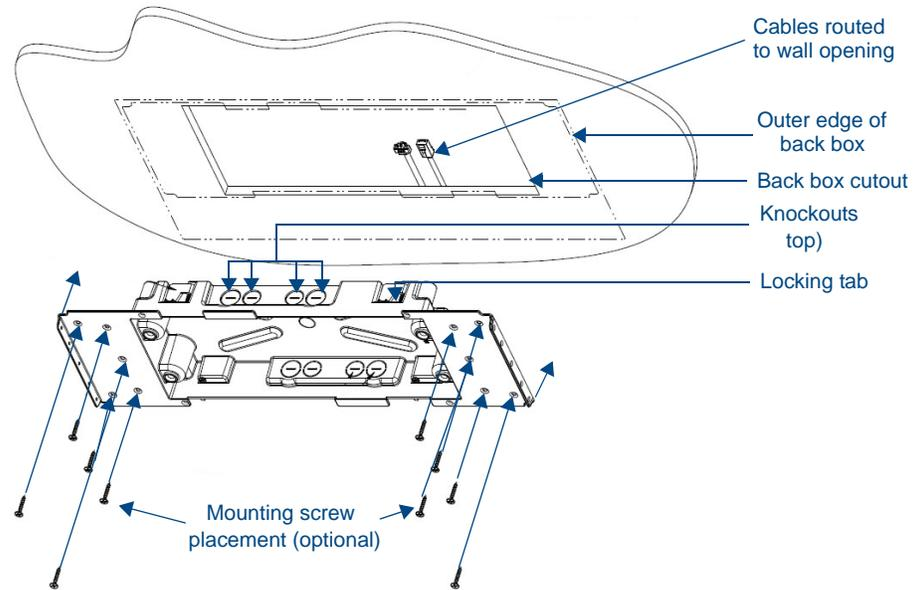
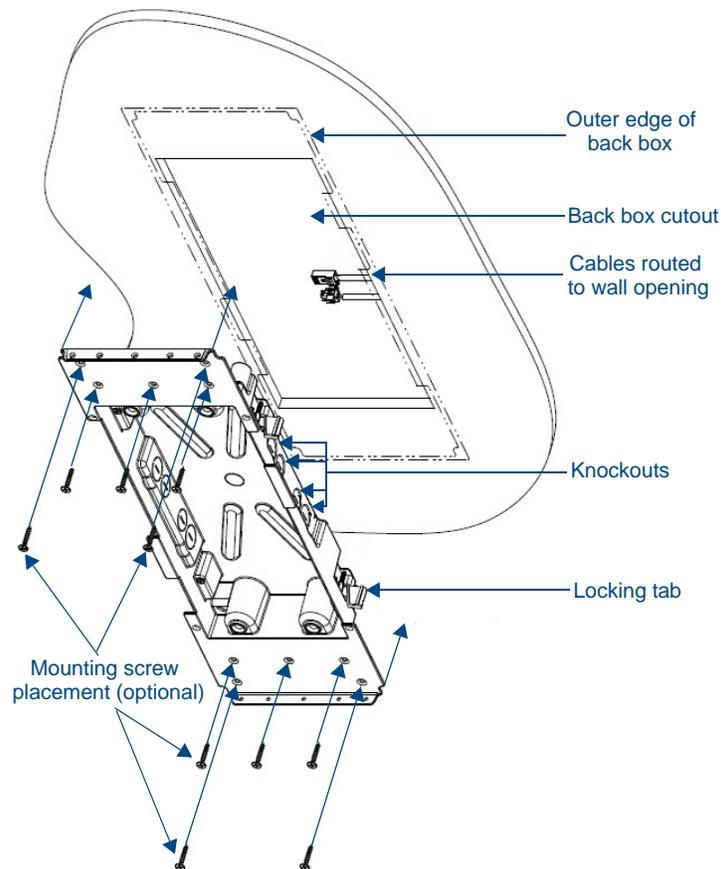

FIG. 18 MXD-2000XL-PAN Back Box installation (Landscape)
FIG. 19 MXD-2000XL-PAN Back Box installation (Portrait)
4. Thread the incoming power, Ethernet, and Micro-USB wiring (if Micro-USB access is desired) from their terminal locations through the surface opening (FIG. 18 and FIG. 19). Leave enough slack in the wiring to accommodate any re-positioning of the panel.
5. Remove any knockouts as needed on either long dimension of the back box (FIG. 18 and FIG. 19) to facilitate incoming wiring and pull the wiring through the resultant holes.
8. For additional strength, #4 mounting screws (not included) may be secured through circular holes located at the left and right sides of the MXD-2000XL-PAN (FIG. 18 and FIG. 19). In order to prevent damage to the touch panel, make sure that these are flush with the back box.